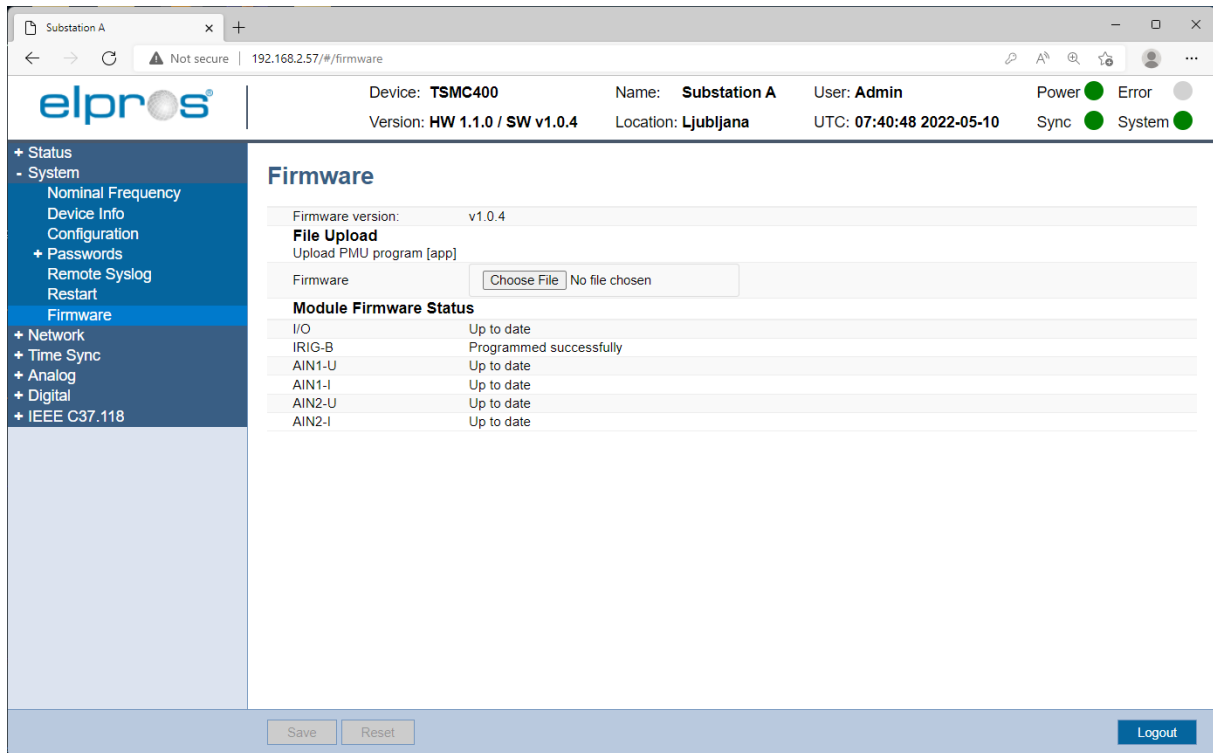

Figure 18: Firmware update page
2. From the Web user interface, use the navigation menu on the left to access the firmware update section (*System->Firmware*), see Figure 18. This page also includes the information about the current firmware version.